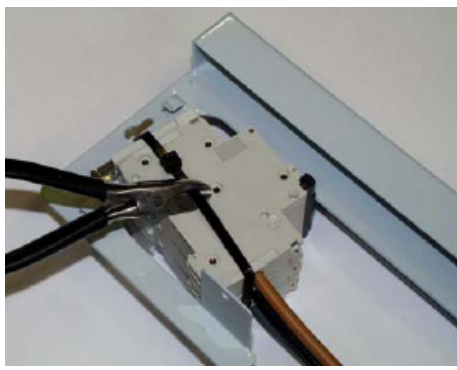

Fig 31
- a. Remove the MCB and pre wired cable loom from the Top/Bottom Joining kit by cutting the transportation strap, taking care not to damage the plug on jaw. (Fig 31)